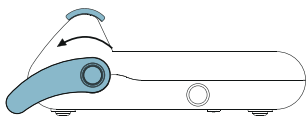

Fig. 2
- 3 Pull the sealing handle until it locks, a beep will sound (Fig. 2), starting the sealing process (6 seconds). At the ending of this period, the LED ✓ will be on and two beeps will sound continuously.